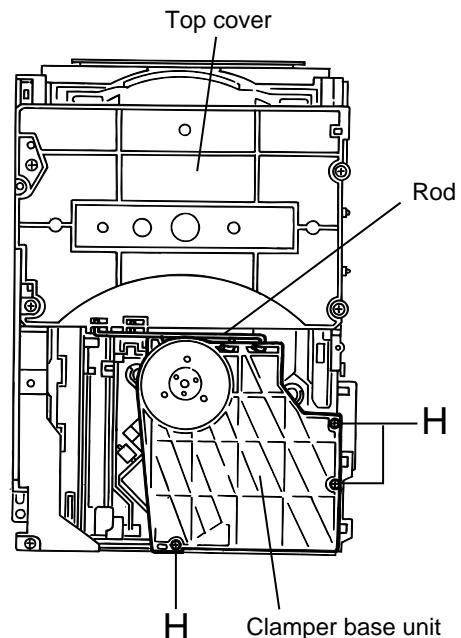

Fig.16
■Removing the pickup (See Fig.16 to 20)